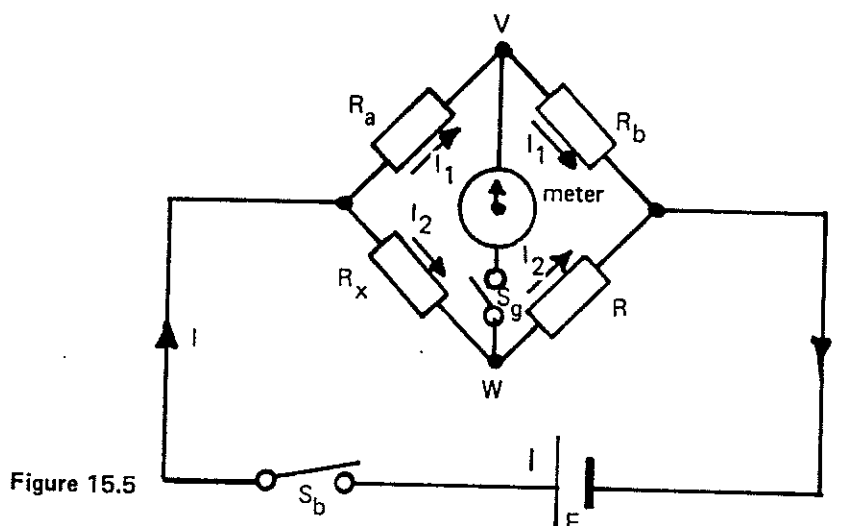

Figure 15.5
A modern Wheatstone Bridge consists of a ratio arm (top left hand corner), four resistor selector dials, a centre zero galvanometer, connecting terminals and two press button switches (BA and GA). The interior contains graded resistors to match the values on the selector switches plus a battery as a source of e.m.f. The circuit for a Wheatstone Bridge is shown in figure 15.5.
In Figure 15.5, let —
- (1) In the circuit shown in figure 15.5, A and B have resistances of 100Ω and 1000 ohms respectively. A decade box used as R gave a reading of 268 ohms when the bridge was balanced. Calculate ' R_x '.
- (2) In a circuit similar to figure 15.5 the positions of resistors R and ' R_x ' were reversed and the same values of A, B and R used as in the previous tutorial. Calculate ' R_x '.
- (3) In a metre bridge circuit, the positions of R and ' R_x ' are reversed. Evolve an equation for the unknown resistance ' R_x '.
- (4) A metre bridge circuit has a 470 ohm resistor connected to the left hand side of the galvanometer. The galvanometer indicated zero at a point 746 mm from the left hand end of the ruler. Calculate the value of the unknown resistor.
- (5) A metre bridge is constructed that the known resistor of 330 ohms is connected on the right hand side of the galvanometer. The point of balance was reached 425 mm from the left hand end of the ruler. Calculate the value of the unknown resistor.